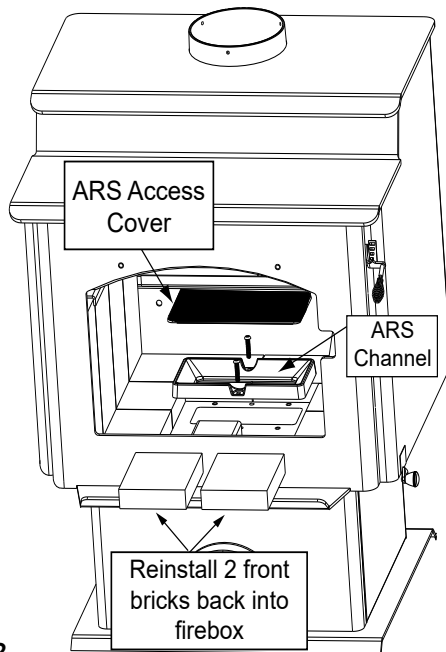

Figure 23.2
1. Replace front bricks that were removed in step 1 of **Begin installing the ARS System** on page 21 (**Figure 23.2 on page 23**).
3. Install ARS access cover inside of ARS Channel that is located inside the firebox (**Figure 23.2 on page 23**).